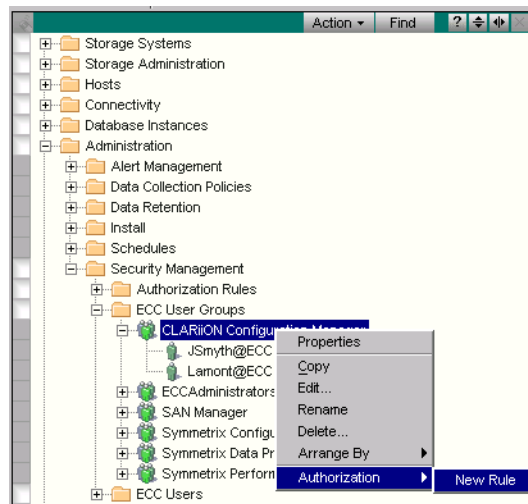

Figure 1-8 Creating a New Rule
2. Right-click the user or user group for which no rule exists, and select **Authorization, New Rule** (Figure 1-8).